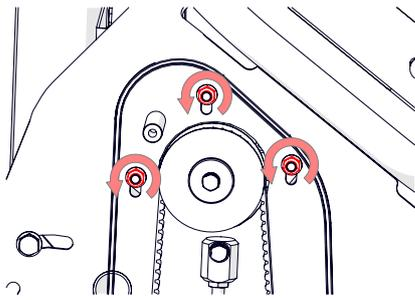

Fig.14B - Loosen slightly the motor 3 x top nuts.
3. Loosen slightly the 3 x top nuts supporting the motor [2 x 13 mm spanner] - secure from the inside of the machine and loosen from the outside (Fig.14B).